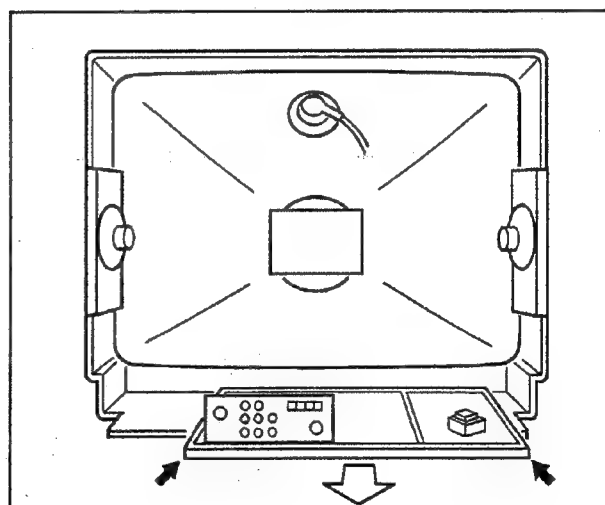

Fig. 2
1. As shown in Fig. 2, slide and pull out the board in the direction of arrow. (If necessary, take off the wire clamp and connectors.)